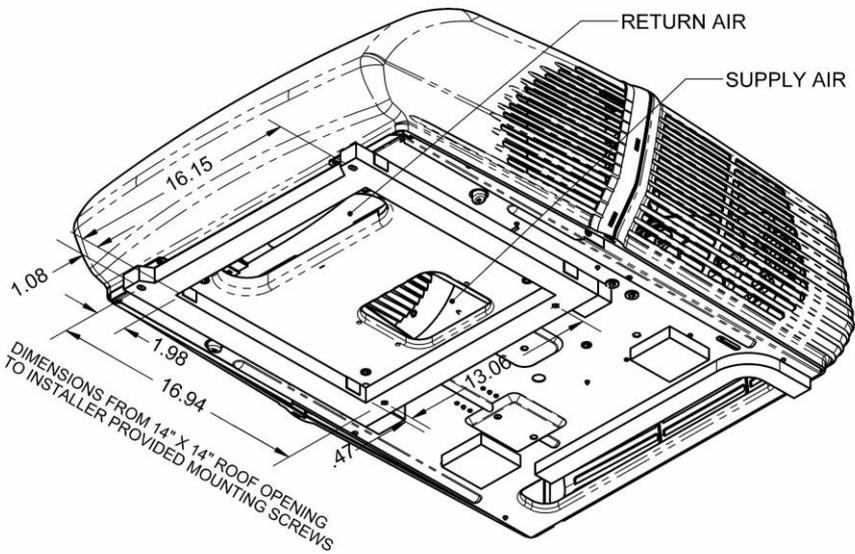

Figure 5
4. Using 4 mounting screws (use of sealing washers is optional) run the screws down through the 2 bulkhead flange holes, 2 front mounting brackets and into the vehicle roof. Tighten rear screws just until the rear base pads contact the roof surface (assuming a flat roof surface. Large radius roofs may require additional support gaskets provided by the OEM.) Tighten the front screws until the unit gasket has been evenly compressed. Use care to **NOT STRIP** the screws. See Figure 5 and 6.